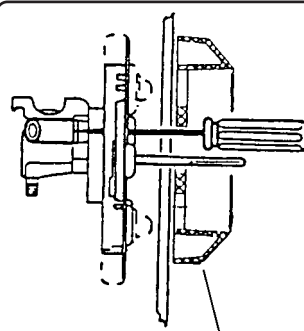

FIGURE 6 BEZEL
5. The bypass jet must be turned clockwise with a small flat-bladed screwdriver until fully seated to set proper low flow rate. See Figures 6 and 7.